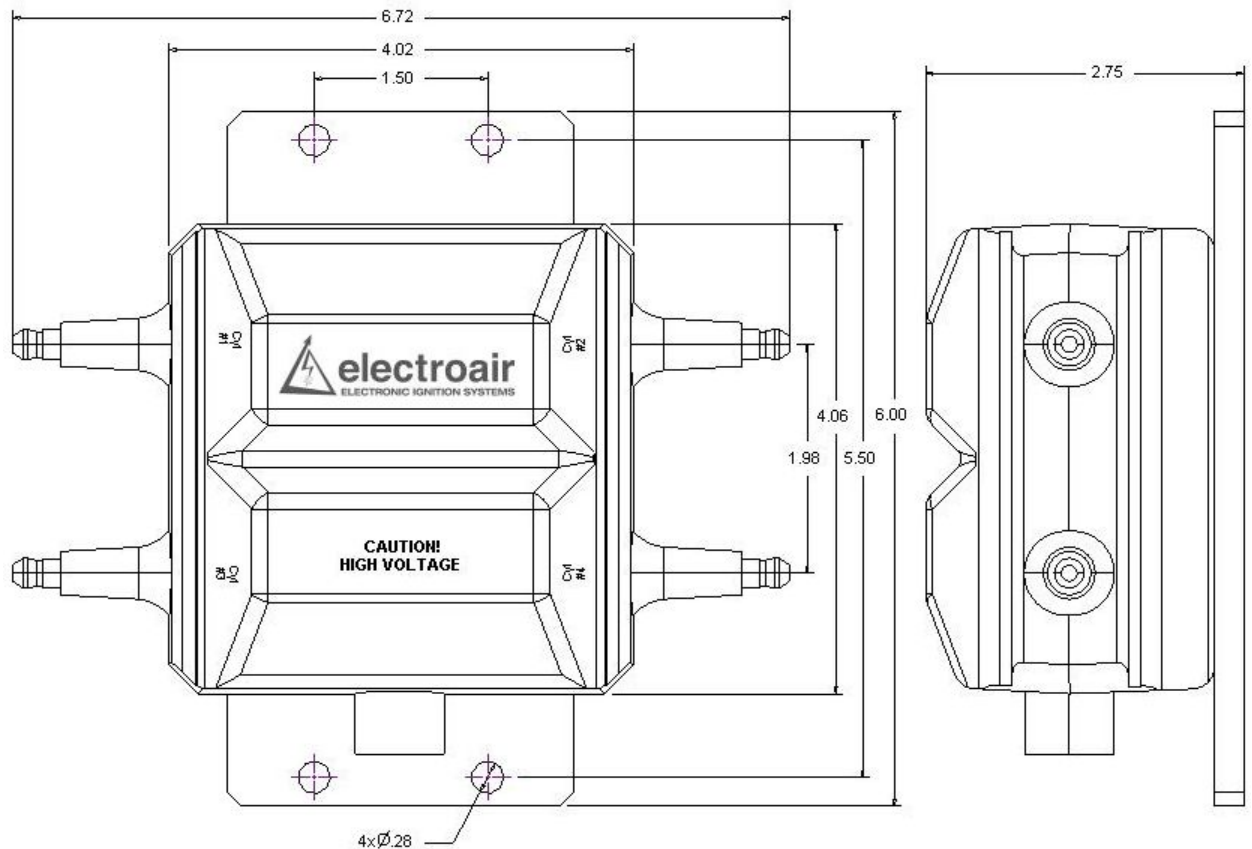

Figure 14: P/N EA-2000 Dimensions
- c. **EA-2000 Installation:** The coil pack is designed to be installed on the engine side of the firewall. Locate the unit in a position to keep the spark plug wires as short as possible and not interfere with other components or create maintenance difficulties in the future. Electroair strongly suggests that the Coil Pack be positioned so that the connector on the coil is facing straight down, but it can be positioned in any orientation if the installation requires alternate positioning. See Figure 14 for the Coil Pack Dimensions.